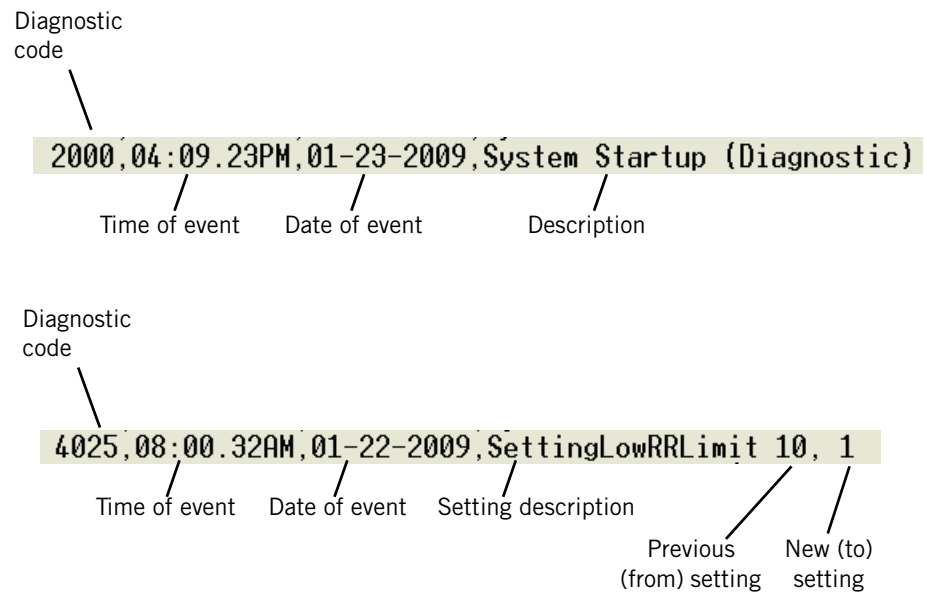

Figure 6-25: Interpreting the DRPTA Report
6. Figure 6-25 shows example lines of a DRPTA report and how to interpret them.